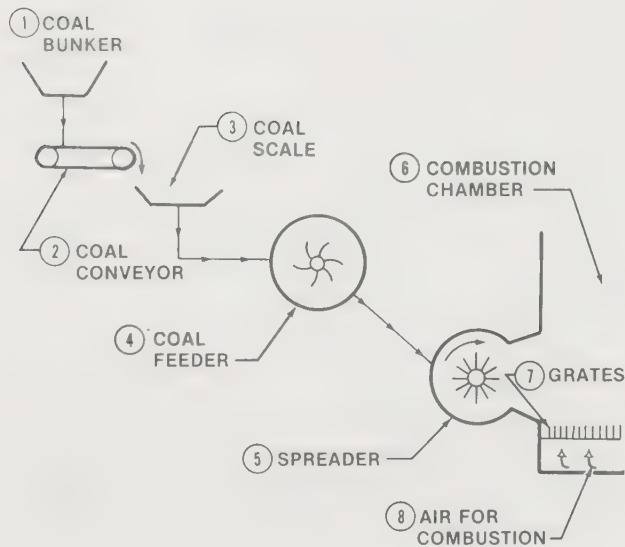

Figure 3-8. The overfeed (spreader) stoker allows some of the coal to be burned in suspension.
Overfeed Stoker. The overfeed stoker is also known as a spreader stoker. See Figure 3-8. The overfeed stoker has a coal bunker (1) where the coal is stored before being moved